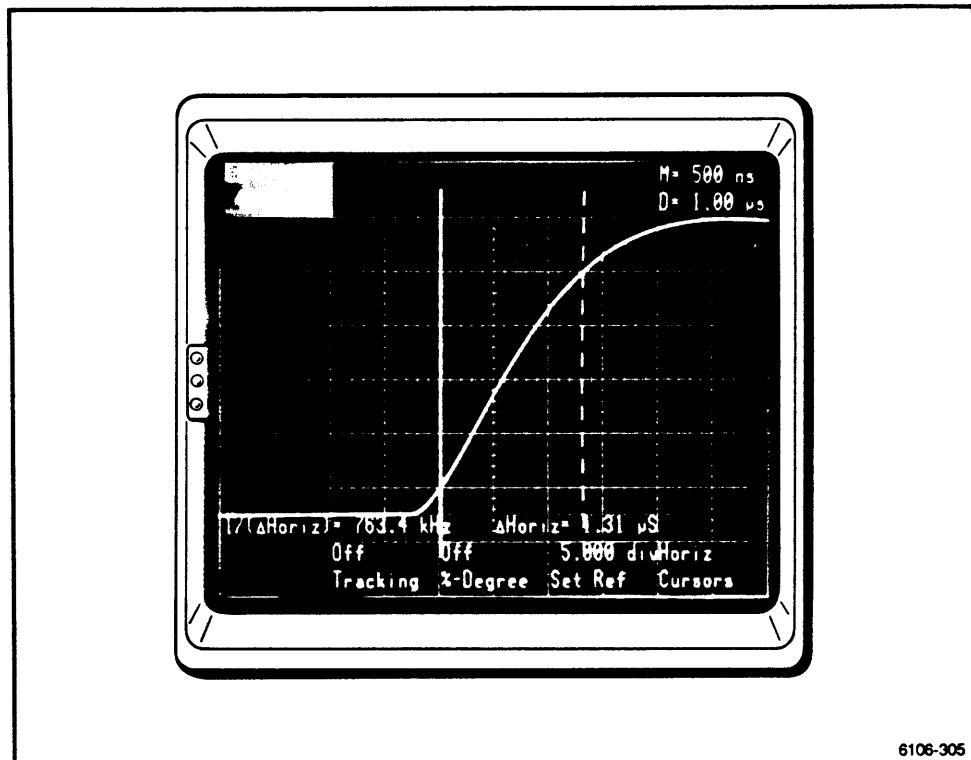

Figure 2-106. Setting the cursors to measure rise time.
6. Press the CURSORS button and select **Horizontal Cursors**. Be sure that **% Degree** is set to **Off**. Adjust the cursor lines until the left cursor intersects the trace at the 10% graticule line and the right cursor intersects the trace at the 90% graticule line. The rise time appears as Δ Horiz near the lower right corner of the crt screen. (See Fig. 2-106.)